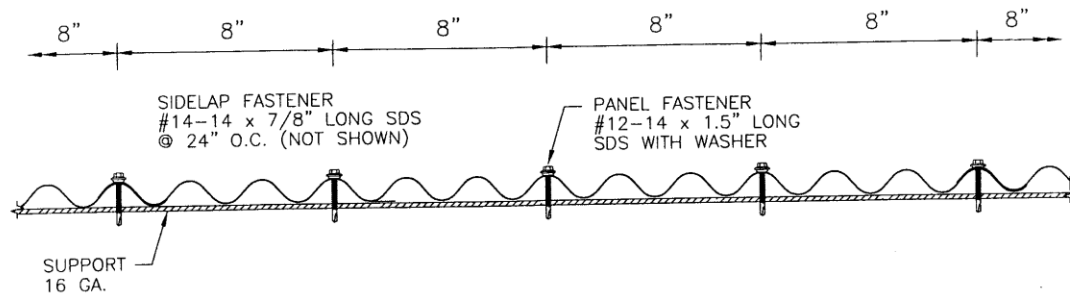

Figure 1. Minimum 24-Gauge PBS Panel Fastener Pattern
- **Attachment of Metal Panels to the Steel Purlins or Steel Girts:** Secure to the steel purlins or girts with No. 12-14 x 1-1/2" long hex head self-drilling screws with a washer. Locate a line of fasteners along each steel purlin or girt spaced 8" on center with the fasteners located in either the valleys or the ridges of the panels. Use fasteners long enough to ensure a minimum penetration of 3 pitches of thread below the steel purlin or girt. Refer to Figure 1 in this evaluation report.
- **Panel Ends and End Laps to Steel Purlins or Steel Girts:** Minimum No. 12-14 x 1-1/2" hex head screws with a washer. Locate a line of fasteners along the steel purlin or girt spaced 8" on center with the fasteners located in either the valleys or the ridges of the panels. Use fasteners long enough to ensure a minimum penetration of 3 pitches of thread below the steel purlin or girt. Refer to figure 1 for an illustration of the fastener pattern.
- **Panel Edges to the Steel Purlins or Steel Girts:** Minimum No. 12-14 x 1-1/2" hex head screws with a washer. Locate a line of fasteners along the steel purlin or girt spaced 8" on center with the fasteners located in either the valleys or the ridges of the panels. Use fasteners long enough to ensure a minimum penetration of 3 pitches of thread below the steel purlin or girt. Refer to figure 1 for an illustration of the fastener pattern.